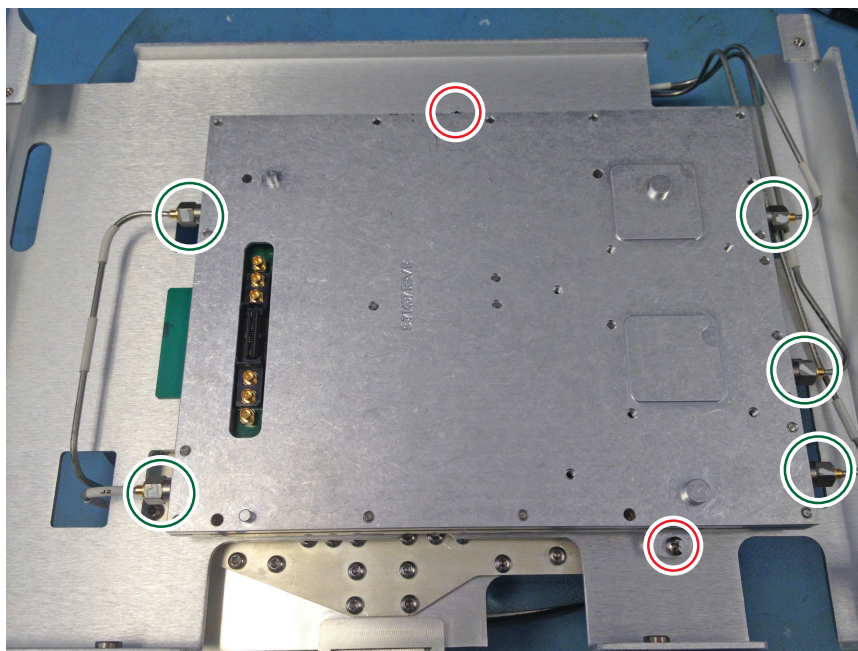
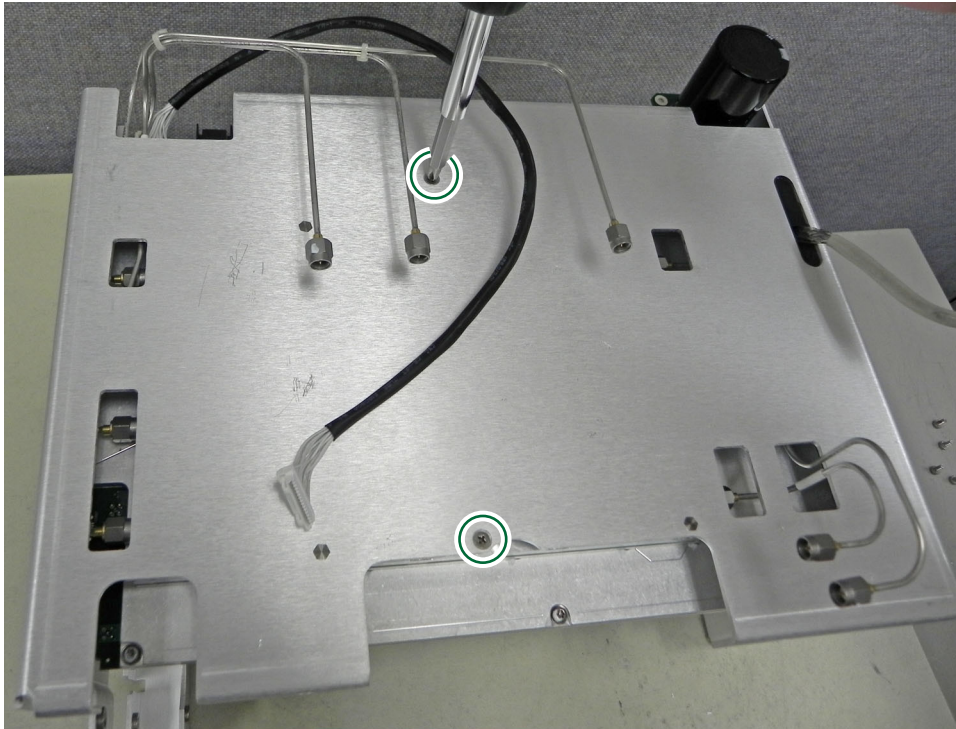

Figure 5-33. Remove RF Assembly
Figure 5-34. Alternate RF Assembly Screw Locations
13. If replacing the RF assembly, then remove the 2 screws and the 5 semi-rigid cables to release the RF assembly (Figure 5-33). Some earlier revisions do not have the 2 screws that are shown in red. For those revisions, refer to Figure 5-34 on page 5-23 for alternate screw location after removing the filter assembly.